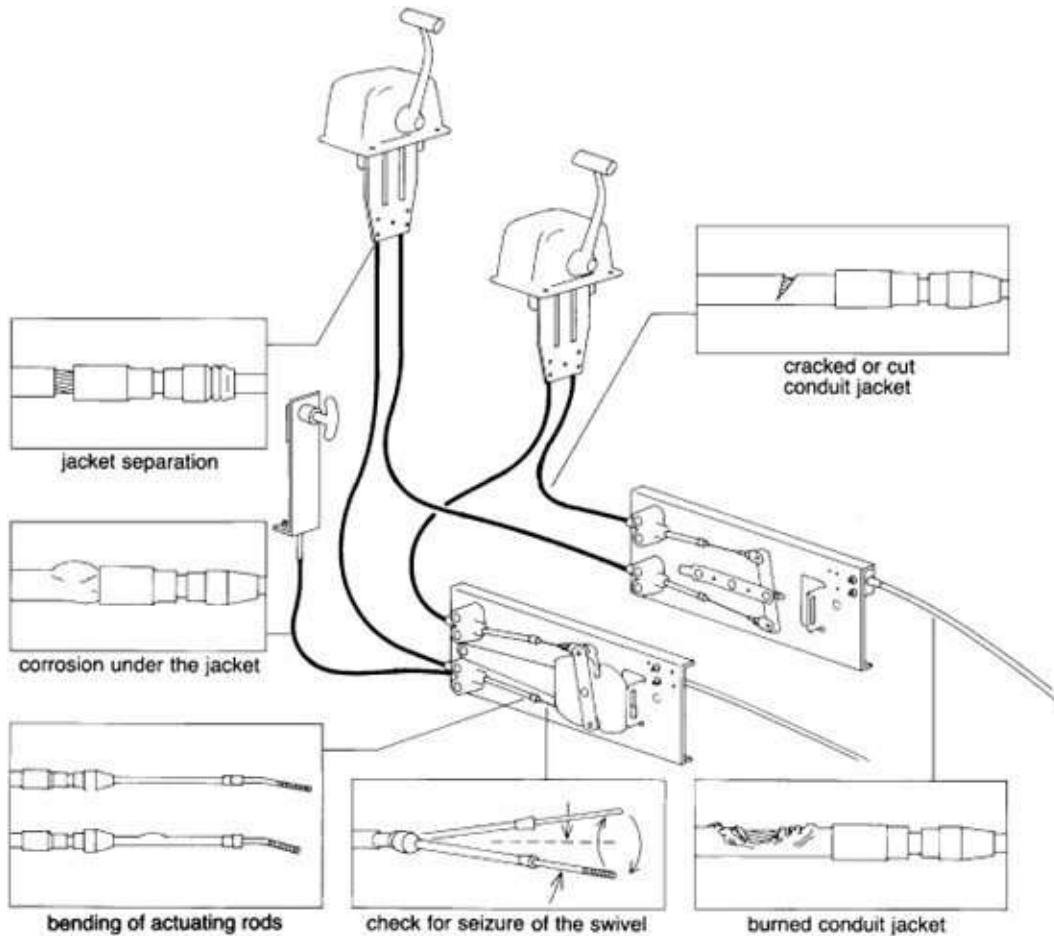

FIGURE 8-27. *Checking transmission control cables. (Courtesy Morse Controls, adapted by Jim Sollers)*
The control cable is a Morse cable. Figure 8-27 on page 217 shows a number of points to watch for with Morse cables. The plunger unit is mounted on a bearing within which the propeller shaft rotates. The bearing is sealed for life. Check for undue play once in a while, and while you're at it, also check the setscrews that lock the central sleeve to the propeller shaft. If water is being thrown around this area (generally from a leaking shaft seal), the bearing will rust out over time.
- Inspect the whole cable annually, checking for the following (see Figure 8-27):